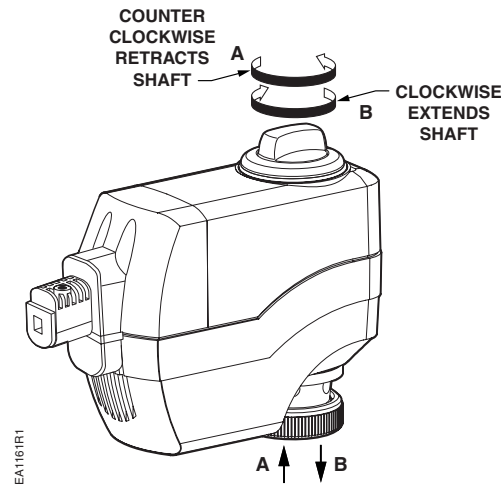

Figure 5. Manual Override.
2. Turn the manual position indicator (see Figure 5 and Figure 6) on the top of the actuator to the 0 position and verify the actuator shaft retracts completely.
For manual positioning, the manual override knob in the center of the position indicator per Figure 5.